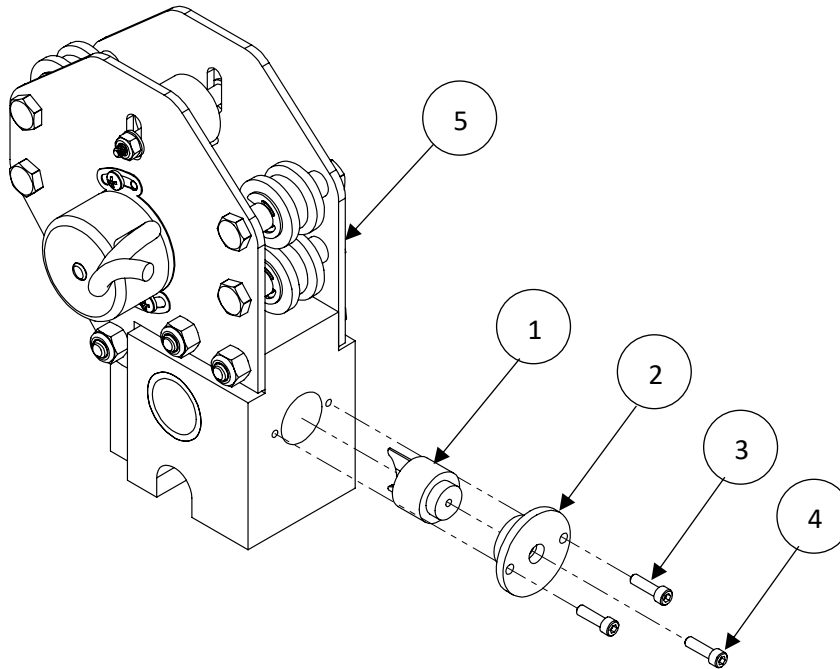

Figure 12
With use, the level-wind brass Key (Figure 12 Item 1) that tracks in the level-wind Lead Screw grooves will eventually wear down. To replace the level-wind brass Key:
1. Remove the (2) #6-32 socket head bolts (Figure 12 Item 3) that holds down the Keeper (Figure 12 Item 2) and Key (Figure 12 Item 2).
2. Remove the #6-32 socket head bolt (Figure 12 Item 4) that holds the Key to the Keeper.
5. Re-insert and tighten the 6-32 screw (Figure 12 Item 4) back into the new brass Key and Keeper. Make sure Key is secured but spins freely within the Keeper.
6. Re-engage the Keeper and Key into the level-wind Counter-Sheave Assembly (Figure 12 Item 5) and then secure them with the (2) #6-32 screws (Figure 12 Item 3).